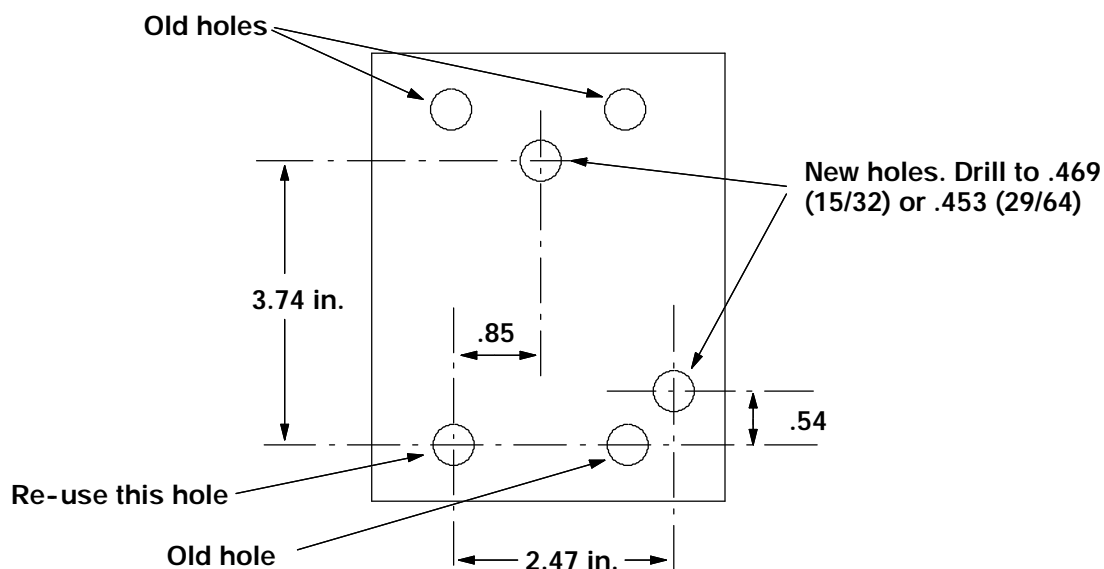

FIG. 2 - Steering Gear Support Plate
4. Position the new steering gear (1) in the machine. Install one of the hex screws in the **BOTTOM LEFT HOLE** of the new steering gear and the **BOTTOM LEFT HOLE** of the machine frame mount plate. Leave the hardware loose for now. (Refer to FIG. 2)
6. Go back and tighten the one hex screw in the bottom left hole of the new steering gear (1). (Refer to FIG. 2)
7. Use a center punch to mark the two new holes that need to be drilled for the new steering gear. (Refer to FIG. 2)
8. Drill the two new .469 in. (15/32) or .453 in. (29/64) holes. Install the last two hex screws and nuts. Firmly tighten all of the hardware. (Refer to FIG. 2)